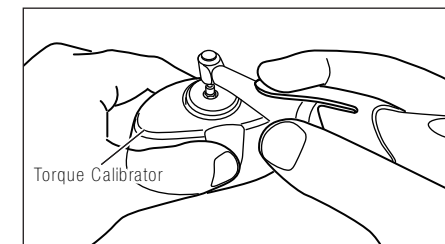

Fig. 10
- 6) When pushing the ON/OFF Key, a count-down takes place, and then loaded calibration starts. The motor handpiece will rotate: keep holding the motor handpiece in a vertical position until the rotation stops, while firmly holding the torque calibrator (see Fig. 10). During the calibration, "CAL" blinks on and off.